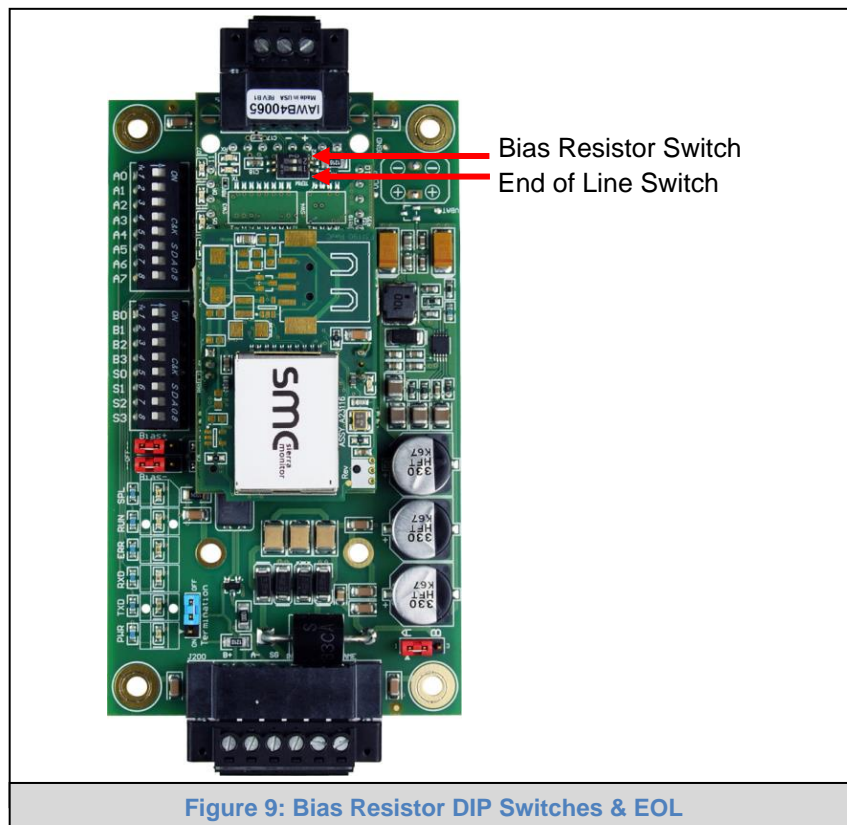

Figure 9: Bias Resistor DIP Switches & EOL
- If more than one RS-485 device is connected to the network, then the field bias resistor switch needs to be enabled to ensure proper communication. See **Figure 9** for the orientation of switch positions referenced below.
- If the FieldServer is the last device on the trunk, then the end of line (EOL) termination switch needs to be enabled. See **Figure 9** for the orientation of switch positions referenced below.